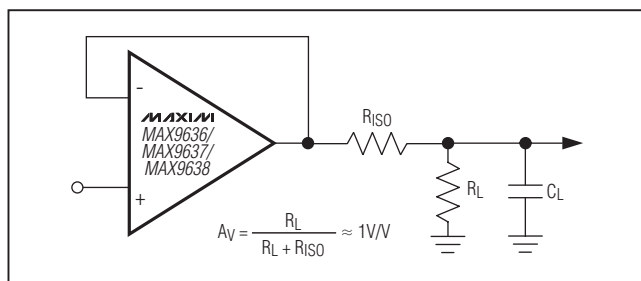
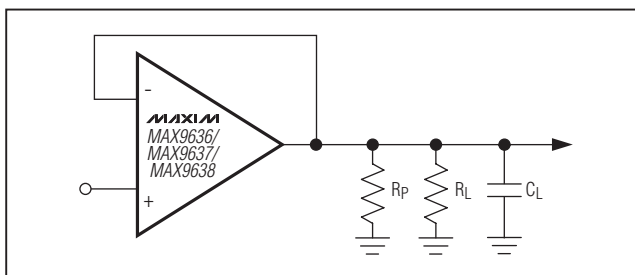

Figure 1. Using a Series Resistor to Isolate the Capacitive Load from the Op Amp
Figure 2. Using a Parallel Resistor to Degenerate the Effect of the Capacitive Load and Increase Stability
The ICs have a high tolerance for capacitive loads. In unity-gain configuration, the op amps can typically drive up to 300pF pure capacitive load. Increasing the gain enhances the amplifier's ability to drive greater capacitive loads. In unity-gain configurations, capacitive load drive can be improved by inserting a small (5Ω to 30Ω) isolation resistor,  $R_{ISO}$ , in series with the output, as shown in Figure 1. This significantly reduces ringing while maintaining DC performance for purely capacitive loads. However, if the load also has a resistive component then a voltage-divider is created, introducing a direct current (DC) error at the output. The error introduced is proportional to the ratio  $R_{ISO}/R_L$ , which is usually negligible in most cases. Applications that cannot tolerate this slight DC error can use an alternative approach of providing stability by placing a suitable resistance in parallel with the capacitive load as shown in Figure 2 (see the *Typical Operating Characteristics* section for graphs of the stable operating region for various capacitive loads vs. resistive loads). While this approach of adding a resistor parallel to the load does not introduce DC error, it nevertheless reduces the output swing proportionally.